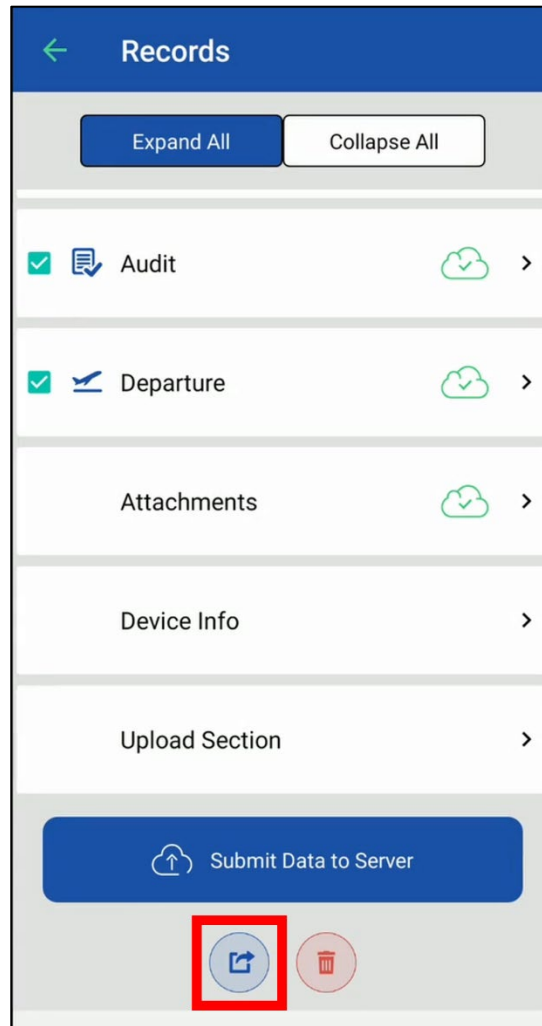

Figure 20: Backing up attachments
2. In the Records page, scroll to the bottom of the page and tap the blue icon (📁) to export the attachments to your phone (Figure 20).